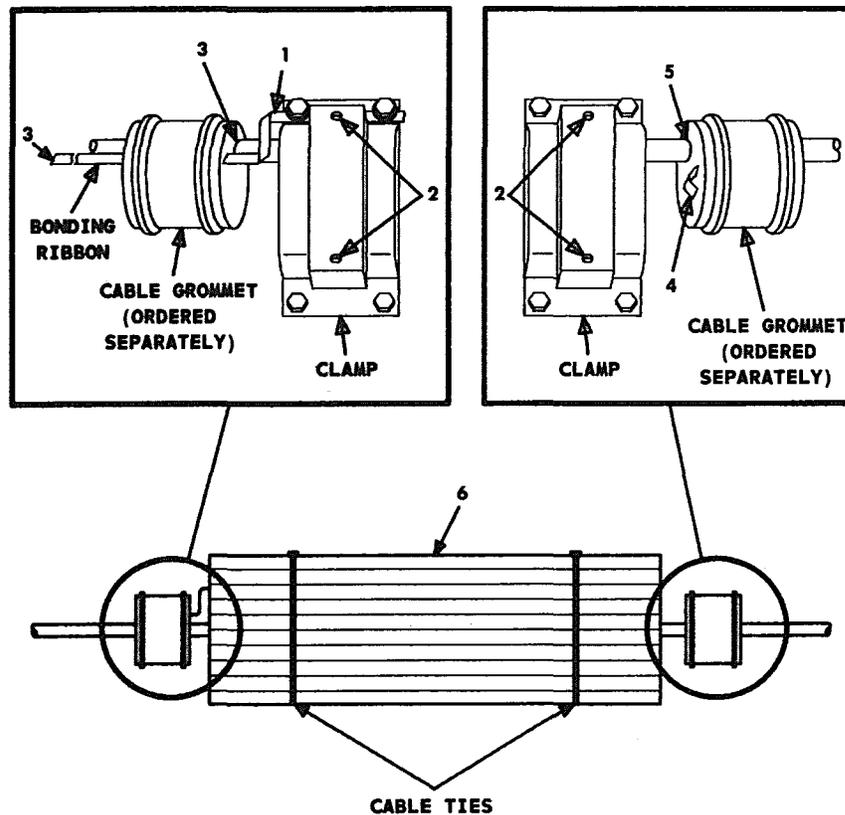

Fig. 88—Placing Grommets and Liner
10.02 The procedures for installing the 51D3-LG2 lightguide closure are outlined in Fig. 88 through 91.
2	Caution: Knock-outs in the UCB1 closure clamp must be removed before encapsulation. (See Fig. 88.) Punch knock-outs from both clamps if the closure is to be encapsulated. Removing the knock-outs will allow the encapsulant to enter the UCB1 closure at the clamp area only.